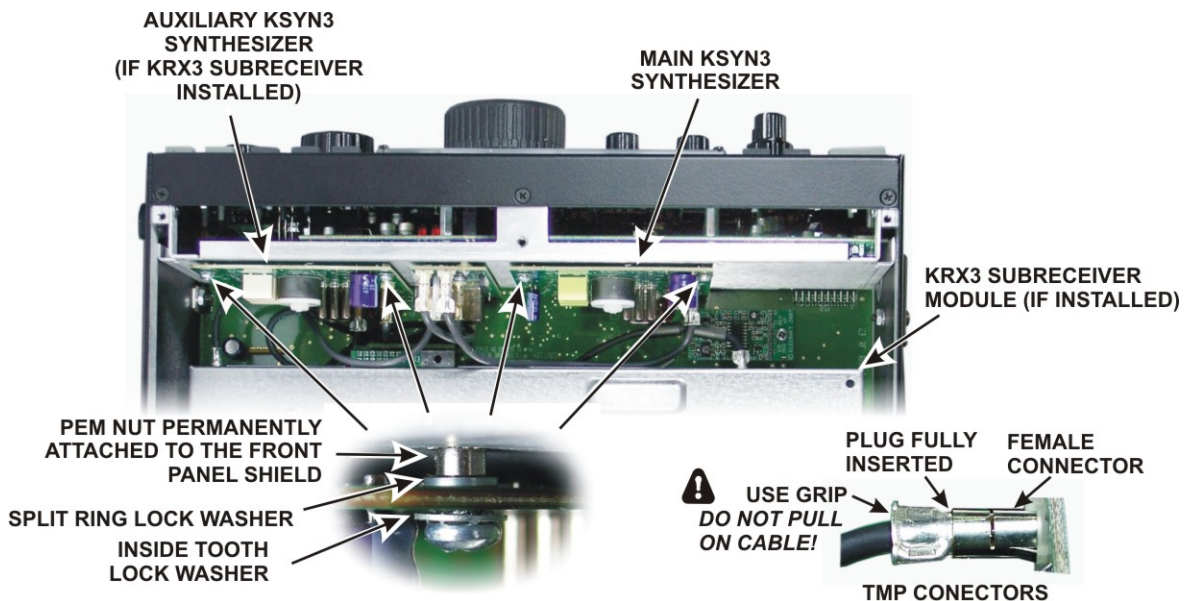
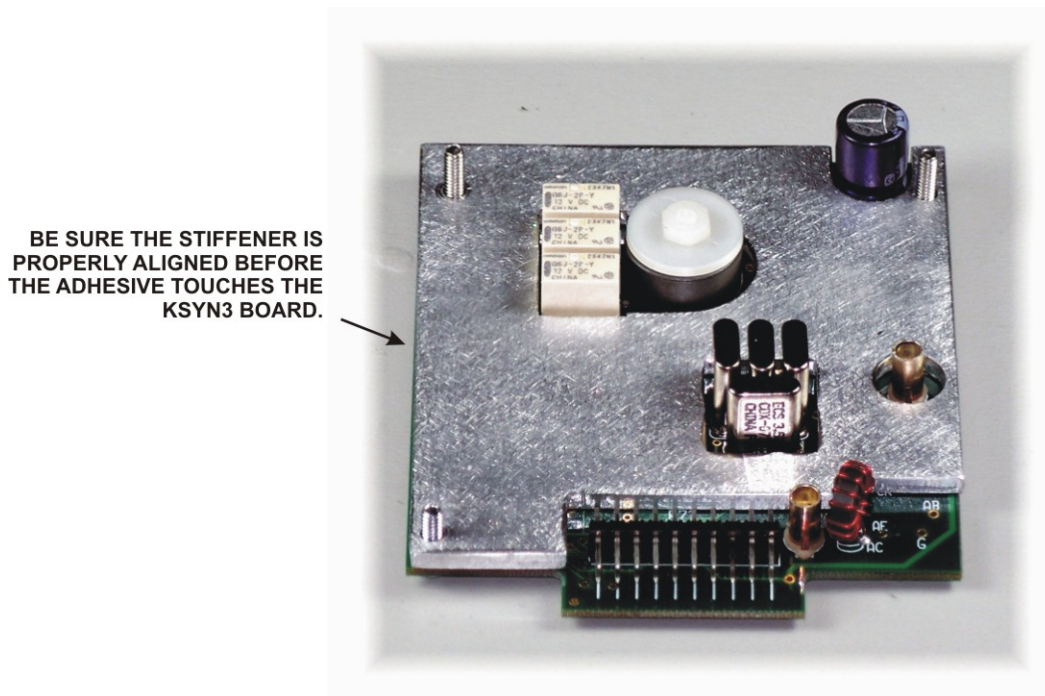

Figure 2. Removing the KSYN3 Boards.
Figure 7. Stiffener Mounted on KSYN3 Board.
To check your K3, remove the top cover and inspect the KSYN3 board(s) mounted on the front panel shield (see Figure 2 on page 2). Boards containing the modification will have a large metal plate mounted on them as shown in Figure 7 on page 6.
- ☐ If you are mounting the stiffener on the main KSYN3 board (see Figure 2) and the K144XV 2-meter option is installed, refer to your K144XV manual and remove the chassis stiffener that runs across the top of the K3 and the K144XV module.
- ☐ Remove the KSYN3 board(s) to be modified (see Figure 2). Each board plugs into the RF board on bottom of the K3 and is held in place with two screws at the top. Loosen the screws and tip the boards to remove the split lock washers. Unplug the TMP coaxial cables as you lift each board out. The TMP connectors are held by friction. Pull only on the metal ears of the TMP plug. Do not pull on the coaxial cables.
☐ Carefully place the stiffener on screws to ensure the holes are aligned with the adhesive side down as shown in Figure 7. Gently squeeze the KSYN3 board and stiffener together to ensure the tape bonds over the full area of the board and then remove the two 1/2" (12 mm) screws from the top holes.